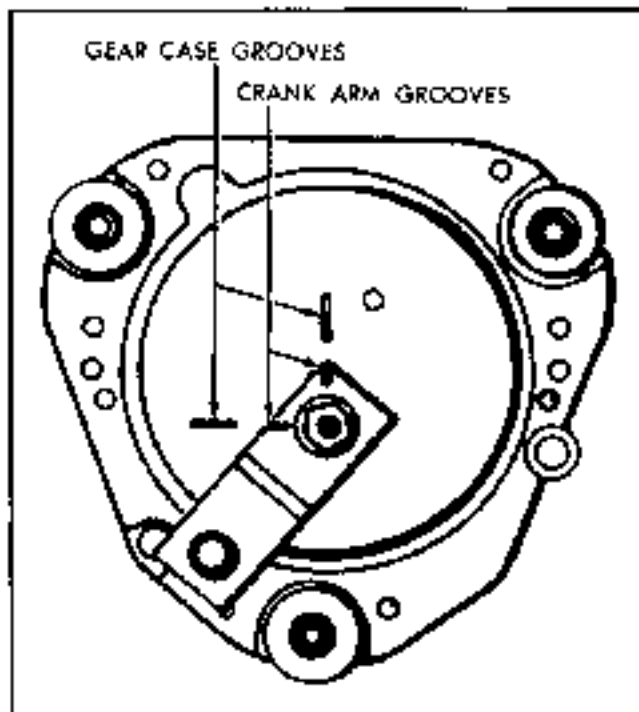

Fig. 12-43 Crank Arm in Park Position—Tempest and Firebird
2. Reassembly of crank arm - operate wiper to park position and install crank arm on output shaft so that identification marks line up with those in cover (Fig. 12-43). Clamp crank in vise before securing retaining nut.